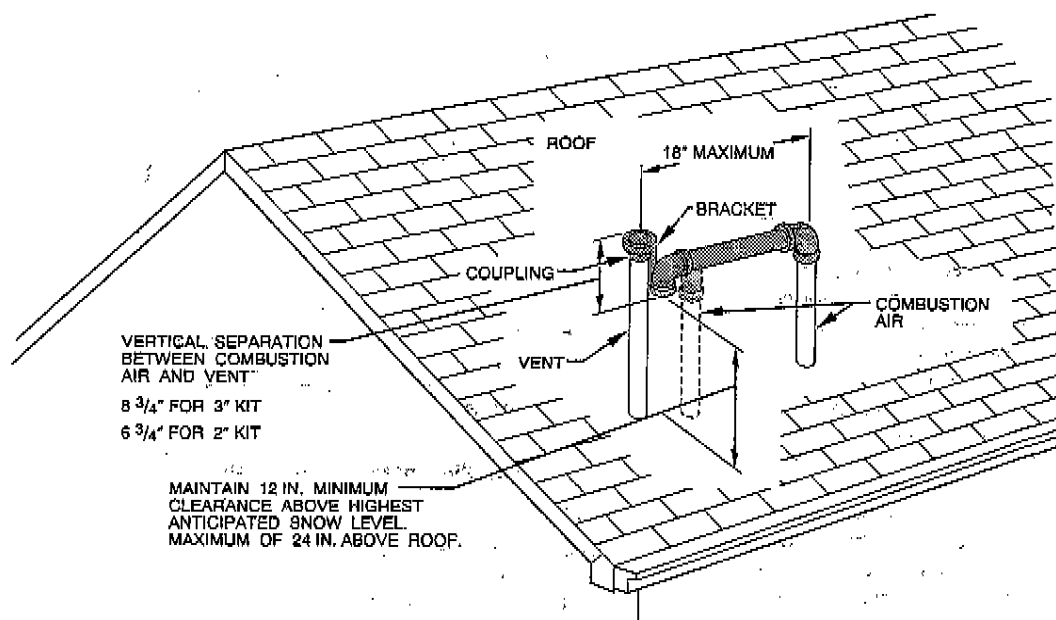

Fig. 30-Roof Termination (Preferred)
Combustion-air and vent pipe fittings must conform to American National Standards Institute (ANSI) standards and American Society for Testing and Materials (ASTM) standards D1785 (schedule-40 PVC), D2665 (PVC-DWV), D2241 (SDR-21 and SDR-26 PVC), D2661 (ABS-DWV), or F628 (schedule-40 ABS). Pipe cement and primer must conform to ASTM standards D2564 (PVC) or D2235 (ABS). See Table 7 for maximum pipe lengths and Fig. 30, 31, 32, 33, and 34 for exterior piping arrangements.
WARNING: All combustion-air and vent pipes must be airtight and watertight. Pipes must also terminate exactly as shown in Fig. 30, 31, 32, 33, and 34. Failure to follow this warning could result in property damage, personal injury, or death.
NOTE: Moisture in combustion-air intake may be result of improper termination. Ensure combustion-air intake pipe is similar to that shown in Fig. 30, 31, 32, 33, or 34 so it will not be susceptible to areas where light snow or other sources of moisture could be pulled in.
NOTE: Shaded parts in Fig. 30, 31, 32, 33, and 34 are considered to be termination. These components should NOT be counted when determining pipe diameter.
Combustion-air and vent pipes must terminate outside structure. A factory accessory termination kit must be installed in 1 of the installations shown in Fig. 30, 31, 32, 33, and 34. Four termination kits are available.
NOTE: Roof termination is preferred since it is less susceptible to damage, has reduced changes to intake contaminants, and has less visible vent vapors. See Fig. 30 or 31.
Roof terminations—Loosely install pipe coupling on properly cut vent pipe. Coupling must be positioned so bracket will mount as shown in Fig. 30.
For applications using combustion-air pipe option, indicated by dashed lines in Fig. 30, install 90° street elbow into 90° elbow, making U-fitting. A 180° U-fitting may be used.
5. Check required dimensions as shown in Fig. 30, 32, or 33.